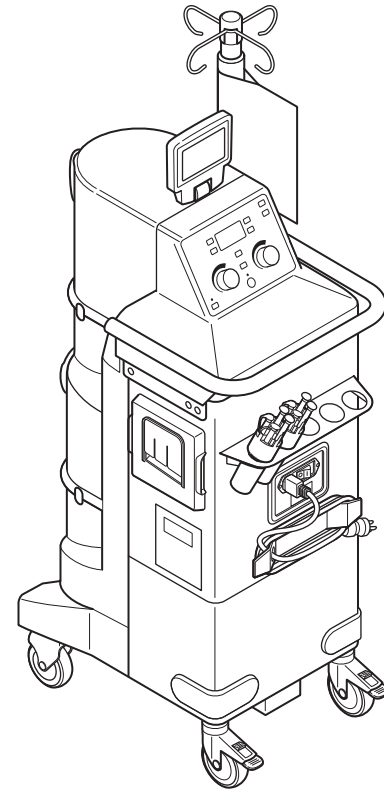

Figure 39 Transport Configuration
**NOTE:** Before relocation, remove all irrigation bags from the rover. The rover transport configuration is illustrated in Figure 39.